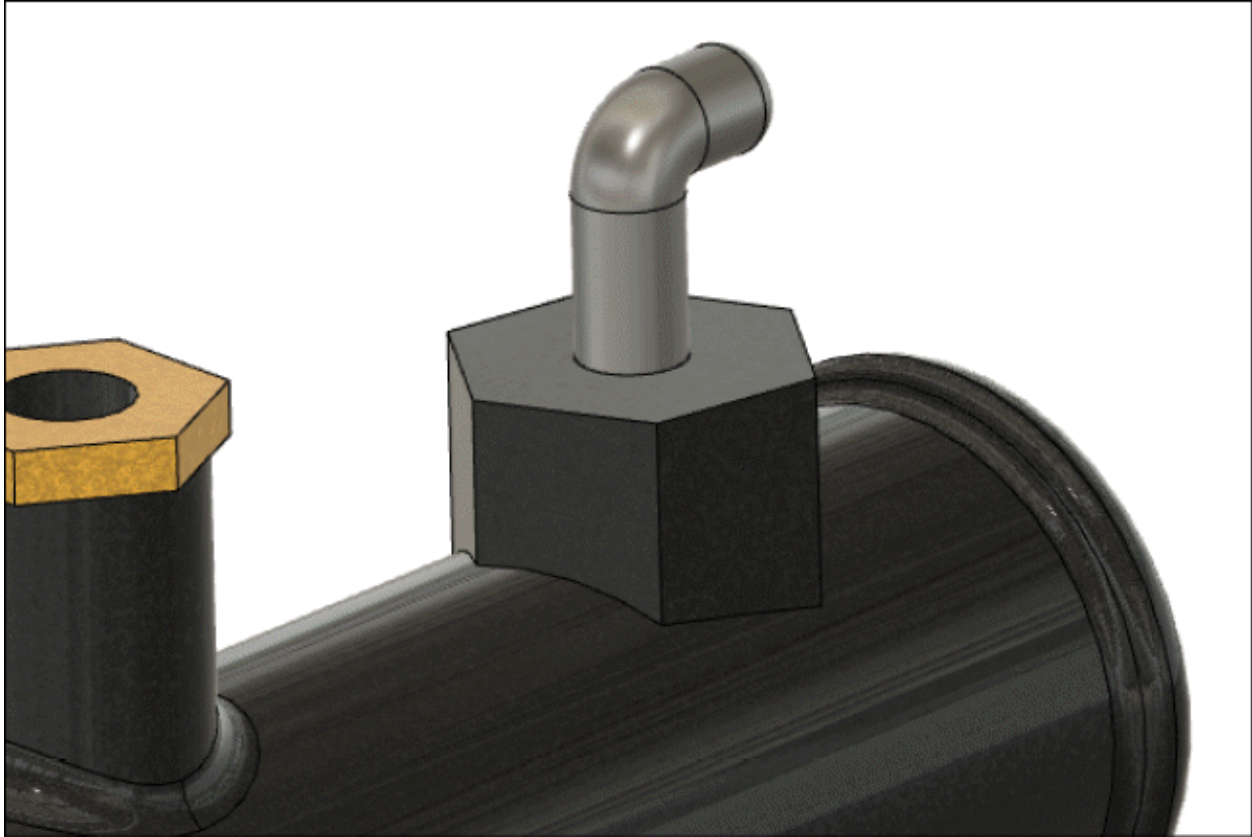

Figure-93. Components joined
- On selecting the snap point on second component, both the components will be joined; refer to Figure-93.